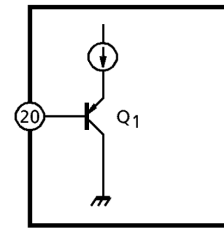

Fig.1
(1) Threshold voltage
Pin(20) is coupled to the base of Q₁ (PNP-Tr) as shown in Fig.1.